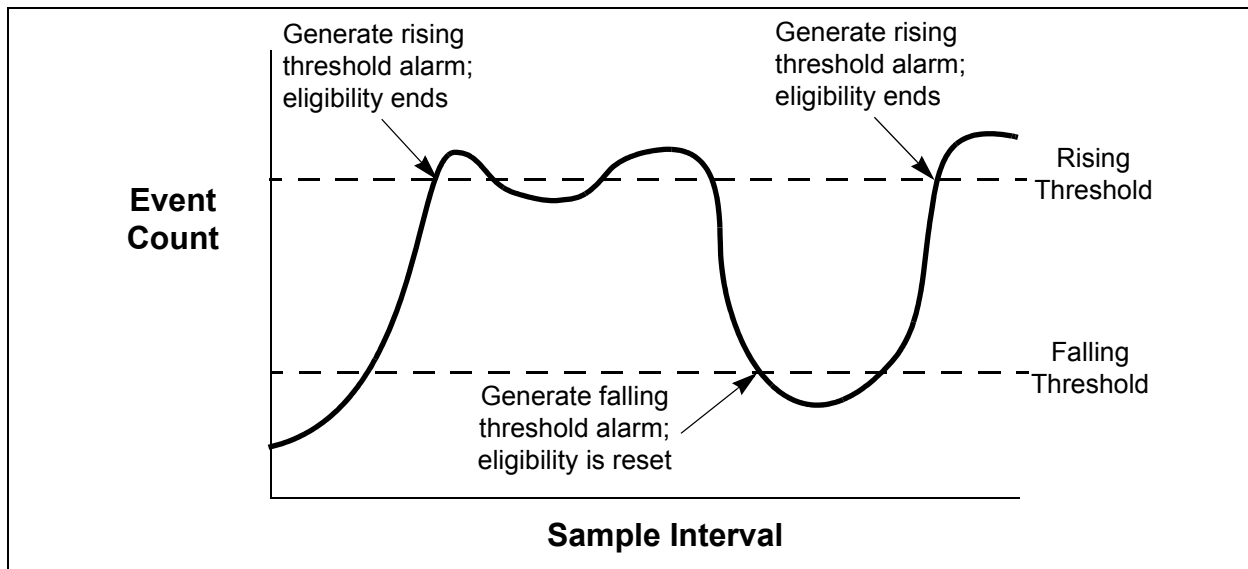

Figure 4-7. Alarm Threshold Example
6. Enter a value for the rising threshold. A rising threshold alarm is generated when the event count exceeds the rising threshold. The switch will not generate another rising threshold alarm for that event until the count descends below the falling threshold and rises again above the rising threshold. Consider the example in Figure 4-7.